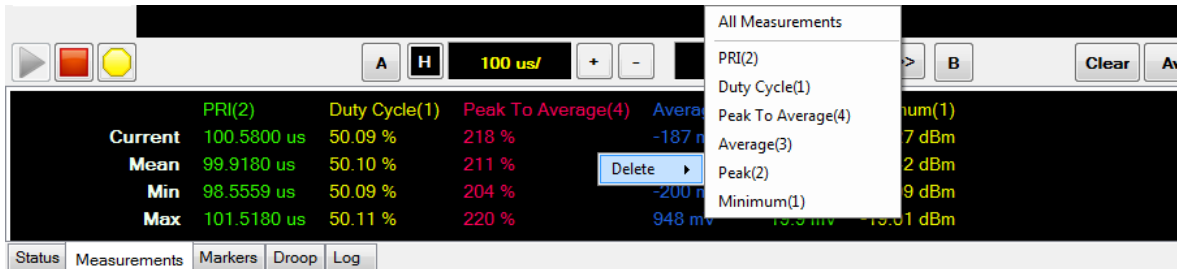

Figure 2-72 To delete measurement results on the Multi-Purpose pane
- 2 To remove all measurement functions results from the Measurement view, select the Measurement view area to display the delete measurement menu and select **Delete > All Measurements**. To remove only specific measurement function results, select **Delete > [measurement function]** as shown in Figure 2-72.